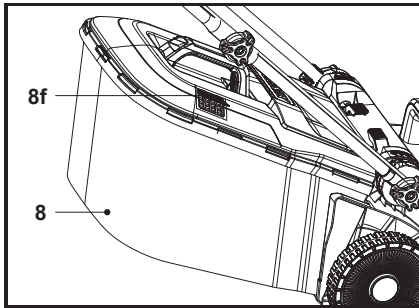

Fig. 11
1. When the hatch (8f) is opened the grass catcher (8) has sufficient volume left to collect grass (Fig. 11).